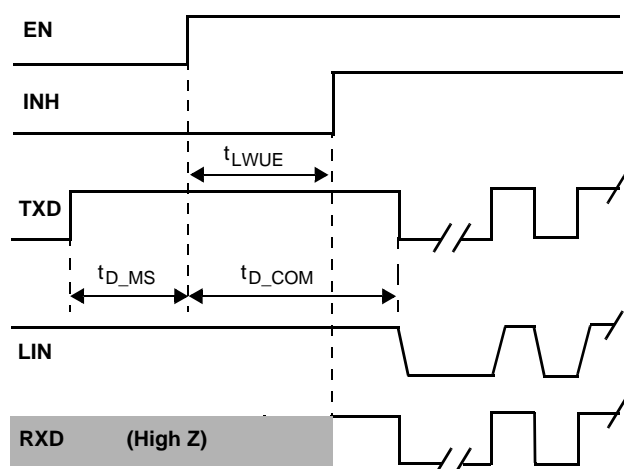

Figure 7. EN Pin Wake-Up and Normal Baud Rate Selection (1.0 kbps to 20 kbps)
- 9 See Figures 7 and 8, 10.
- 13 See Figures 7 through 12, pp. 10–11.
The TXD input pin is the MCU interface to control the state of the LIN output. When TXD is LOW, LIN output is LOW; when TXD is HIGH, the LIN output transistor is turned OFF. The threshold is 3.3 V and 5.0 V compatible. The baud rate selection (normal or Slow mode) is done at device wake-up by the state of the TXD pin prior to a HIGH level at the EN pin (see Figures 7 through 12, pp. 10–11).